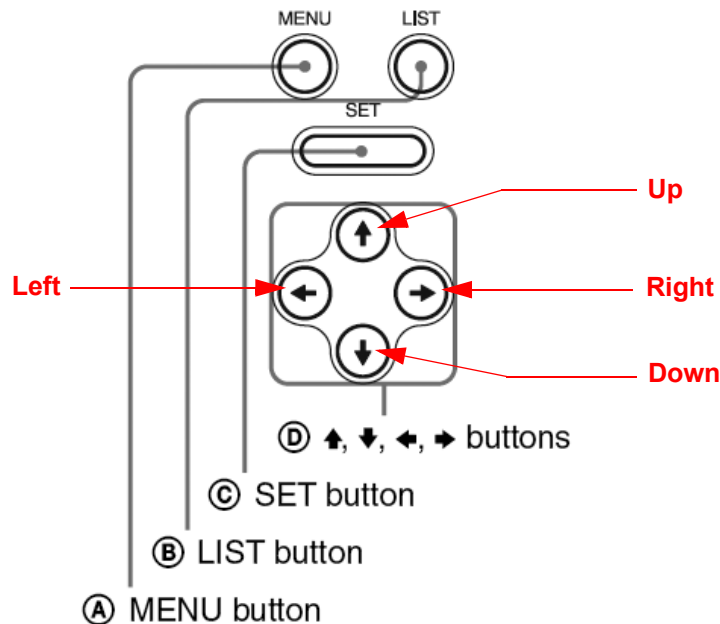

Figure 3-10 Keys on the front of the recorder
- 2.) Press the **MENU** button (A) located on the front of the DVD recorder see Figure 3-10 below.
- 2.) Press the **MENU** button (**A**) located on the front of the DVD, see: Figure 3-10 on page 3-18.
- 2.) Press the **MENU** button (A) located on the front of the DVD, see: Figure 3-10 on page 3-18.